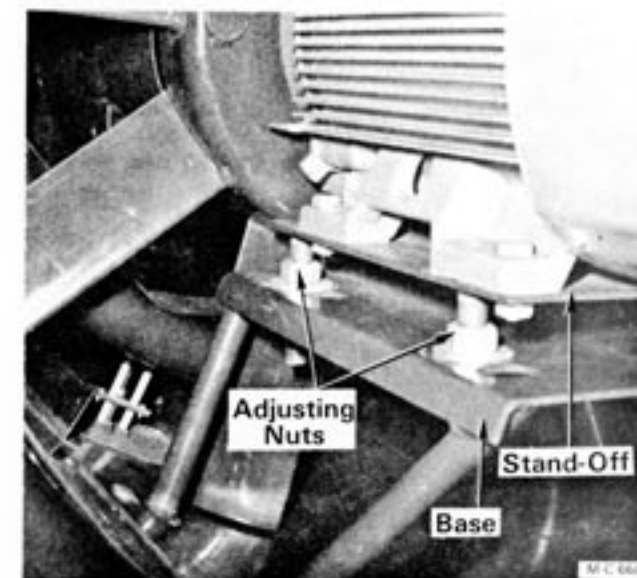

Figure 6
2. To adjust fan clearance, loosen the four locknuts under the motor base and turn the adjusting nuts on top to raise or lower the motor, see Figure 6. The holes in the base are slotted to allow for side to side adjustment. Tighten locknuts after adjustment has been completed.